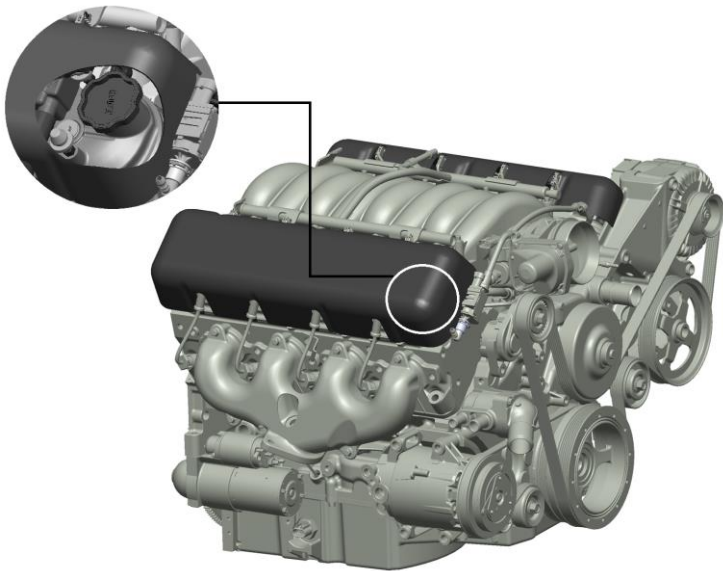

Figure 4
- A. For a clean look, the supplied fill cap can be used directly in the valve cover, under the coil cover (**Figure 4**). To add oil, the cover can be removed. Use extra care when removing cover in very low temperatures, as plastic may become brittle.